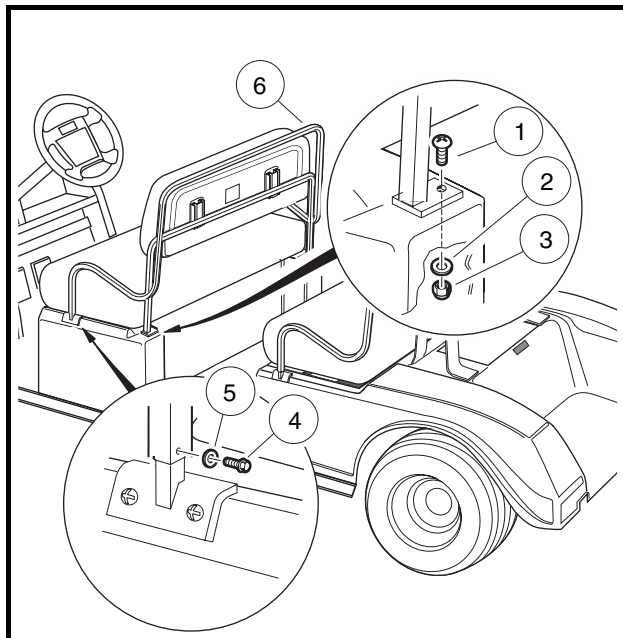

Figure 4-2 Center Body Seat Back Assembly
3. Remove screws (4) and washers (5) from the each side of the armrest/seat back assembly (6) (**Figure 4-2, Page 4-3**).
4. Remove the screws (1), lock nuts (3) and washers (2) from each side of the armrest/seat back assembly (6).
5. Remove the armrest/seat back assembly (6) (**Figure 4-2, Page 4-3**).
2. Tighten screws (4) to 9 ft-lb (12.2 N-m) and screws (1) to 18 in-lb (2.0 N-m) (**Figure 4-2, Page 4-3**).